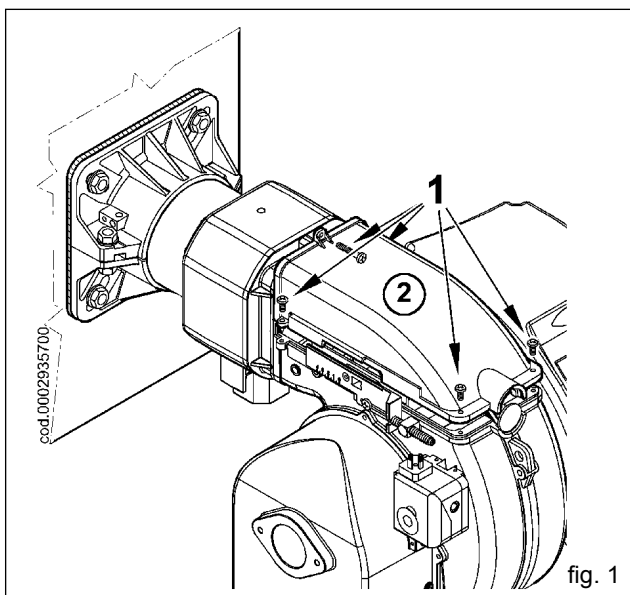

fig. 1
- 1) Slacken the screws 1 and remove the lid 2 (figure 1).
- 1) Following the instructions in the section entitled "Maintenance", remove the mixer unit and remove the screw (1) connecting the forward movement rod (2) of the unit with the gas delivery pipe (3) passing through the slot (4) in the elbow union (figure 1).
- 2) Turn the elbow union 180° so that the hole in the gas delivery pipe is aligned with the slot (4a) in the diametrically opposed position on the union. Connect up the forward movement rod (2) and the gas delivery pipe (3) with the screw (1) shown in figure 1.